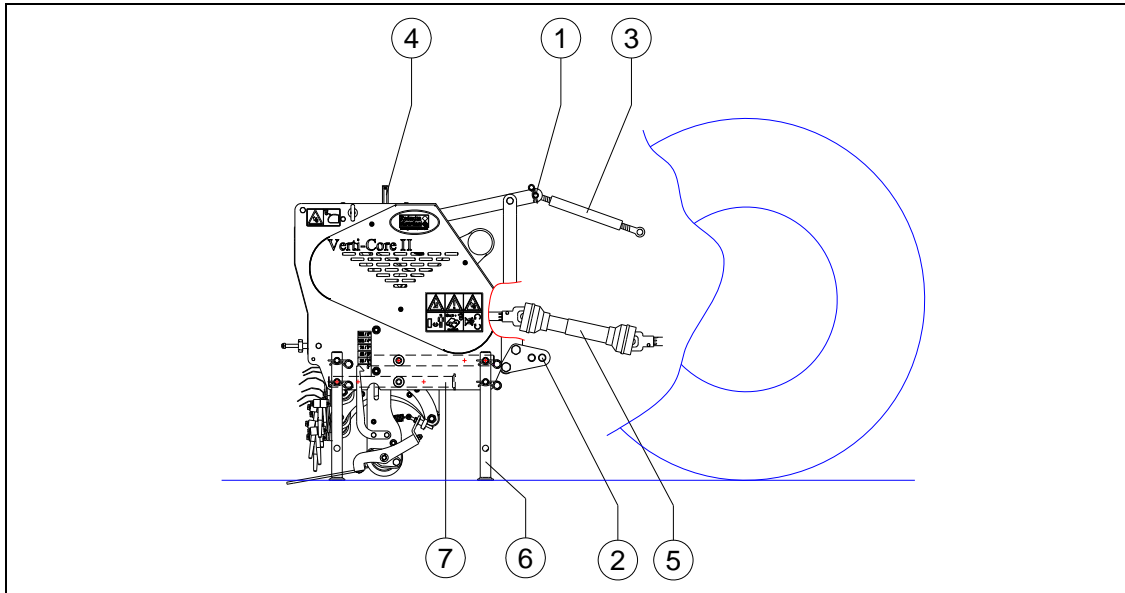

Fig. 11
The method is as follows: (Fig. 11)
If the Verti-Core II is connected to the tractor incorrectly, Chapter 4, Fig.11, different PTO shaft angles can cause vibrations in the machine's drive shaft. These vibrations can damage the machine and negatively affect the pattern of holes in the ground.
⚠ Make sure the top link (3), see Fig. 11, is connected and tensioned in the conveyor. If this is not case, the machine could sustain serious damage.